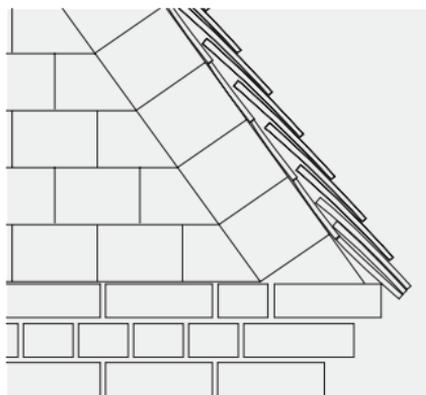

Fig. 34 – Fixing tiles to raked batten
- 3 Fix edge tile close to undercloak/soffit, securing by spot bedding and double nailing into raking batten (Fig. 34).